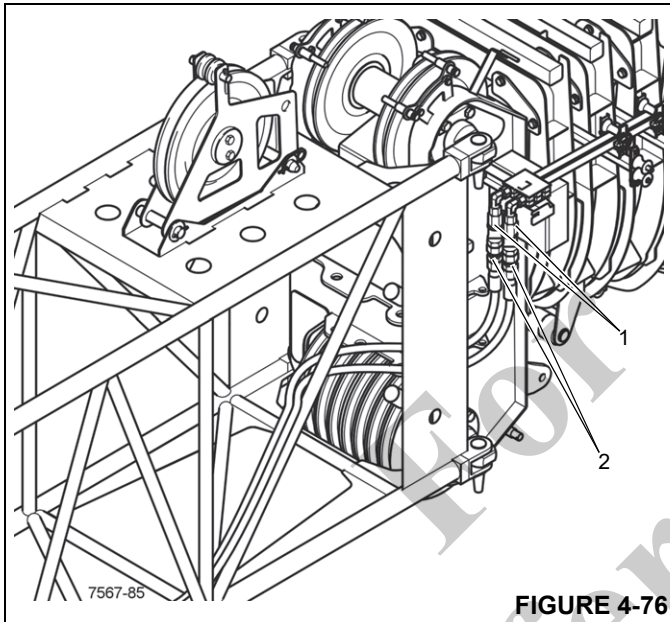

FIGURE 4-76
1. If necessary, install the hydraulic hoses (1) (Figure 4-76) on the boom nose, refer to *Extension Hydraulic Connections (Optional Hydraulic Extension)*, page 4-34.
2. Route the short ends (2) to the main boom head.
3. Remove the protective caps and connect the short ends (2) to the boom nose connectors (1).
1. Disconnect the short hose ends (2) from the boom nose connectors (1) (Figure 4-76).
3. Route the short ends (2) inside and place them in front of the lower cross-strut so that they do not hang down.